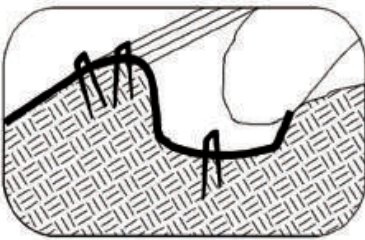

Fig. 6 Longitudinal anchor trench
- Step 3:** Dig 150mm deep and 150mm wide longitudinal trenches at the top of side slopes to anchor the blanket edges (Fig. 6).
- Step 10:** Secure the edges of the blankets along the longitudinal trenches on the top of slopes with pins at 300mm centers (Fig. 6).